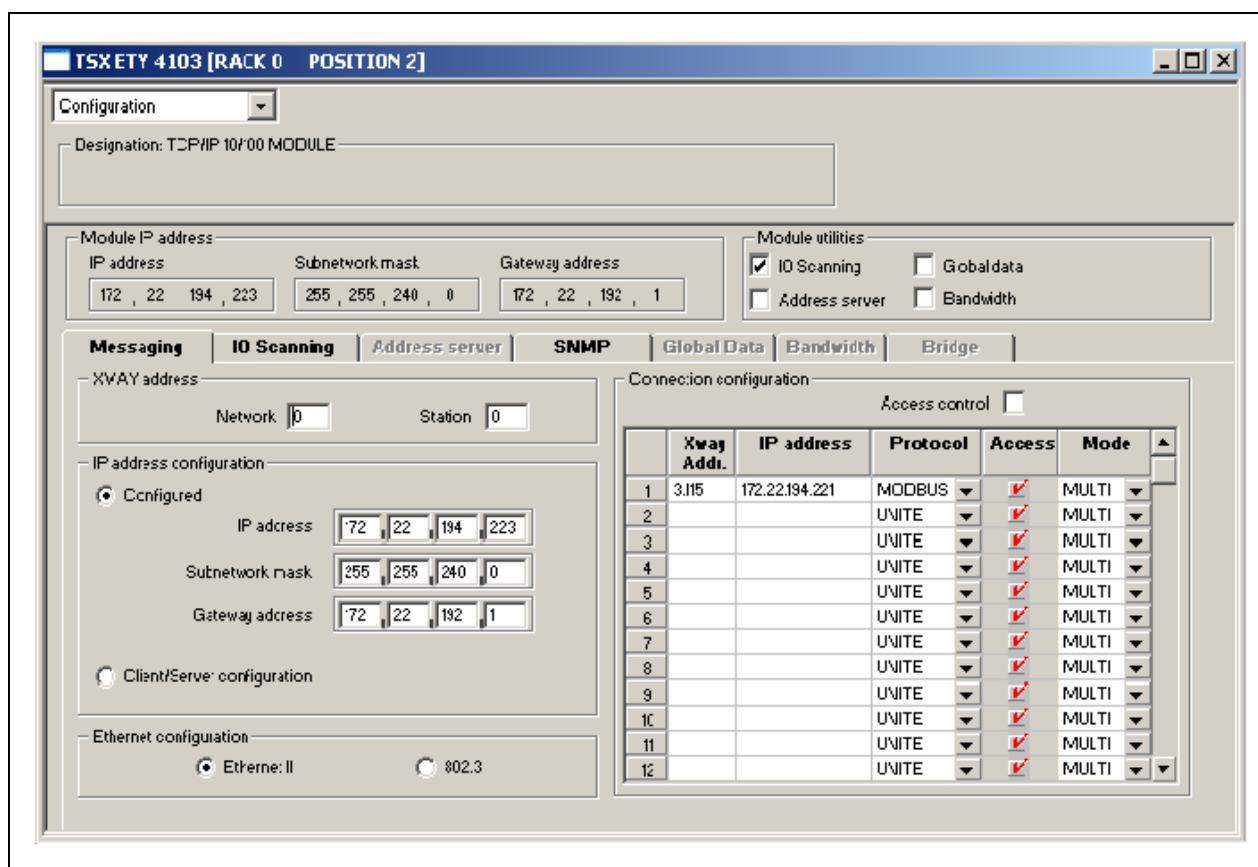

Fig. 3.1 Ethernet module
1. Double-click on the Ethernet module in the Hardware Configuration and display the Messaging tab. See Fig. 3.1.